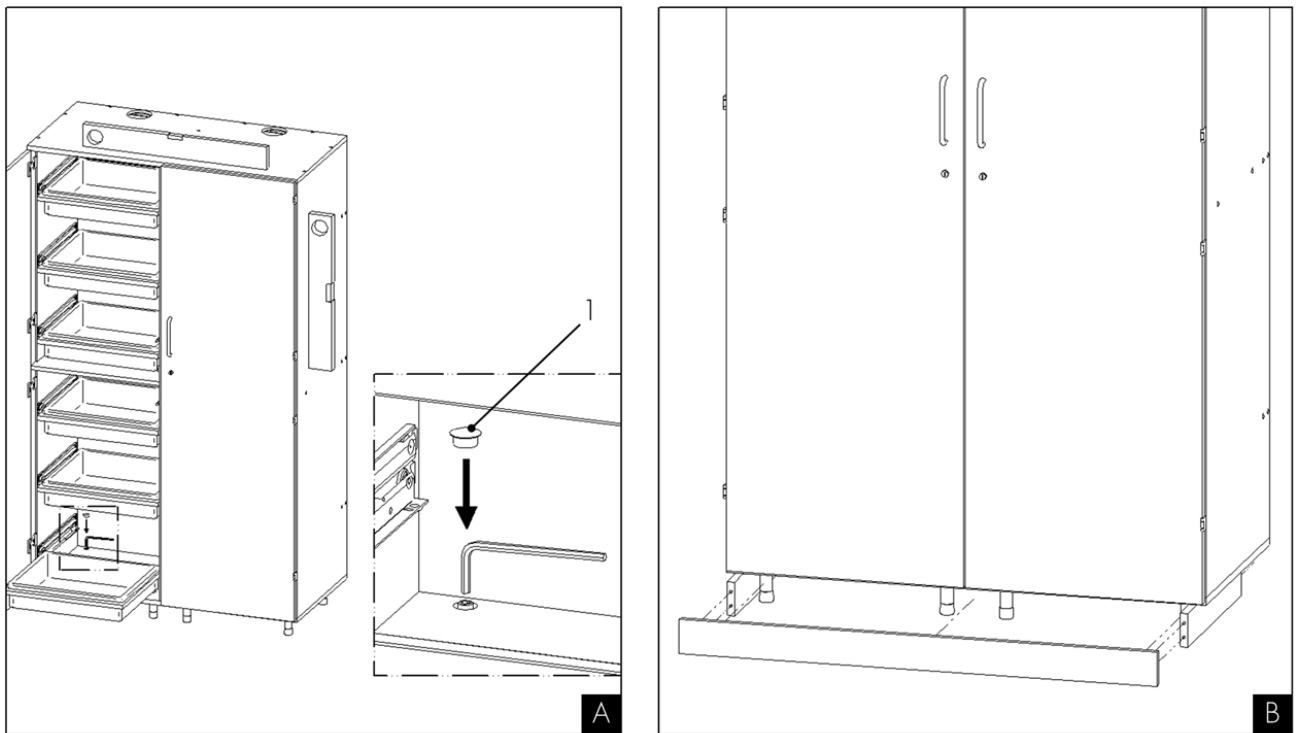

Fig. 10: Alignment of an ACID C pro.
1. ➤ Remove the packaging and detach the accessories (1) from the cabinet (A).
2. ➤ Lift the safety storage cabinet smoothly from the transport pallet (3) and put it upright onto a suitable transport equipment (4), for example a pallet truck (B).
3. ➤ Screw the standing feet completely into the prepared holes from below (C).
5. ➤ Align the safety storage cabinet (see Fig. 10).